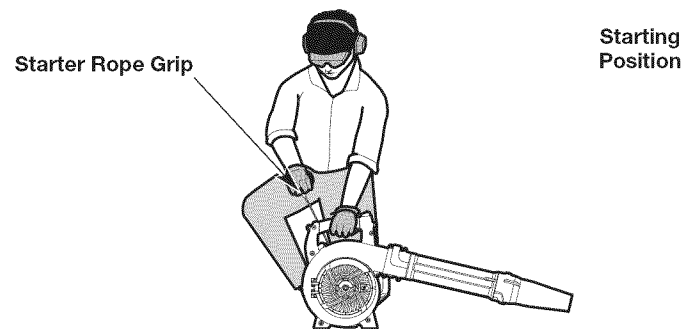

Fig. 7
WARNING: Avoid accidentally starting the unit. To avoid serious injury, the operator and the unit must be in a stable position when pulling the starter rope (Fig. 7).
6. **DO NOT** squeeze the throttle control. Crouch in the starting position (Fig. 7).